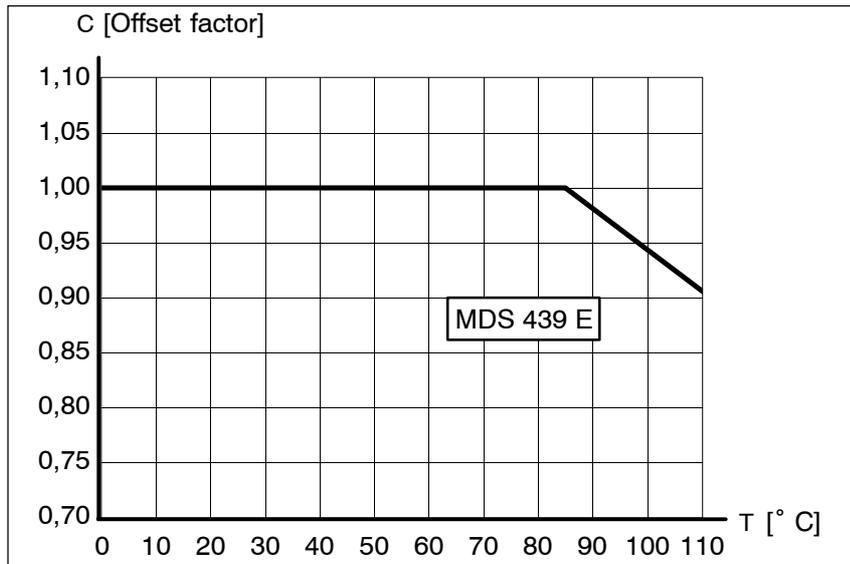

Figure 3-37 Offset factor C in relation to the temperature
- C = Offset factor for temperatures > 85° C (cf. figure 3-37)